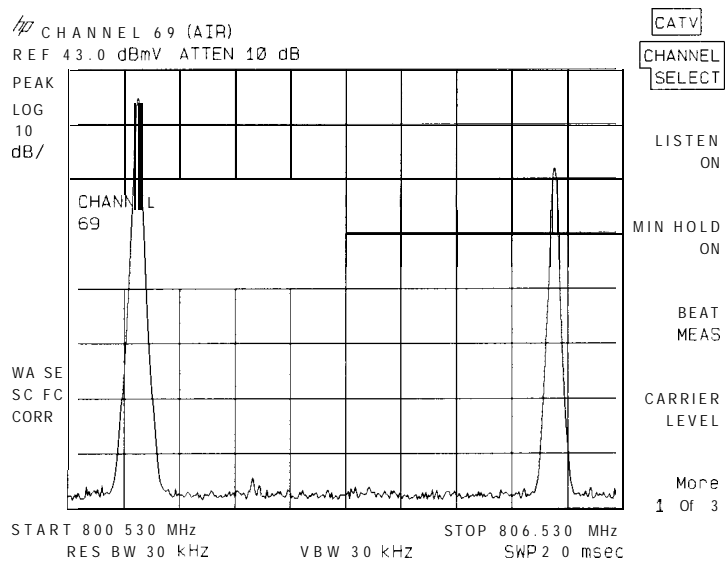

Figure 3-3.
8. Confirm the analyzer display is similar to Figure 3-3.